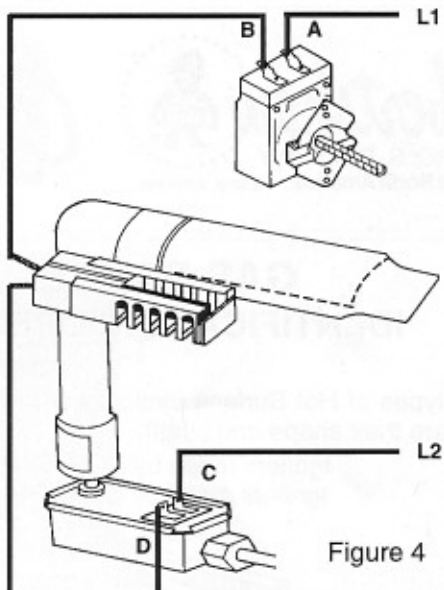

Figure 4
- A. Disconnect oven power and remove wires at "B" and "C" (Figure 4).